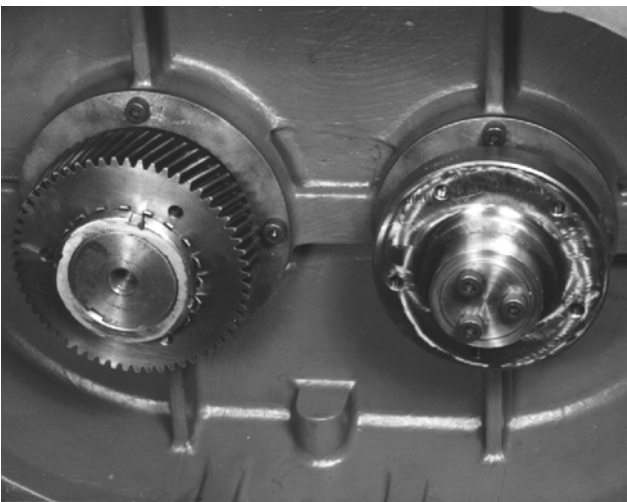

FIGURE 27
27. Install the bearing clamp plates (10, 11) with "Nylok" type screws (47), FIGURE 27, page 36.
- Check the fit of the key (41) in the gear hub (9) and pinion (7). Check the pinion, hub and shaft extensions for burrs. Install the keys in the shafts, making sure of a snug fit. Heat the pinion and hub
Lock the rotors from turning with a piece of hard wood or belting. Install the hub and pinion and pull tight with a locking device, FIGURE 27. Use the hub retainer (13) and screws (14) to pull the hub up tight against the bearing.